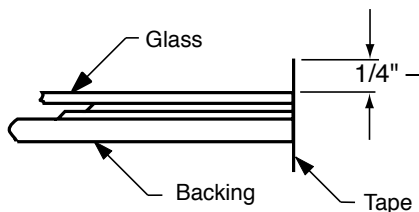

Figure 5: Apply the tape to the edge of the glass/mat/art/backing package, leaving about 1/4" of tape sticking straight up.
- As you apply the tape around the edges, let about 1/4" stick up above the glass (see Figure 5). You can leave it standing straight up at this point. You don't have to be accurate yet, as it will be trimmed to 1/6" in the next step.